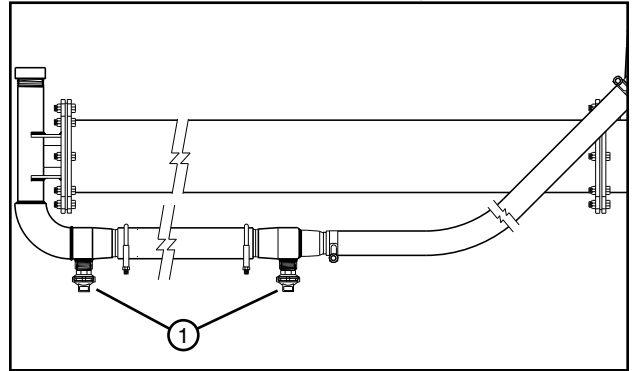

Figure 91-1 1. Booster Pump Hose Drain
- Make sure the booster pump hose drain is not plugged with sand or debris and the hose is completely drained. See Figure 91-1.